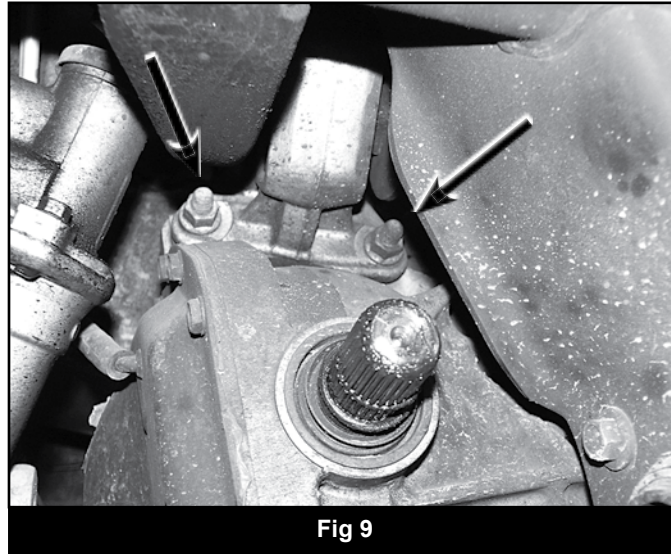
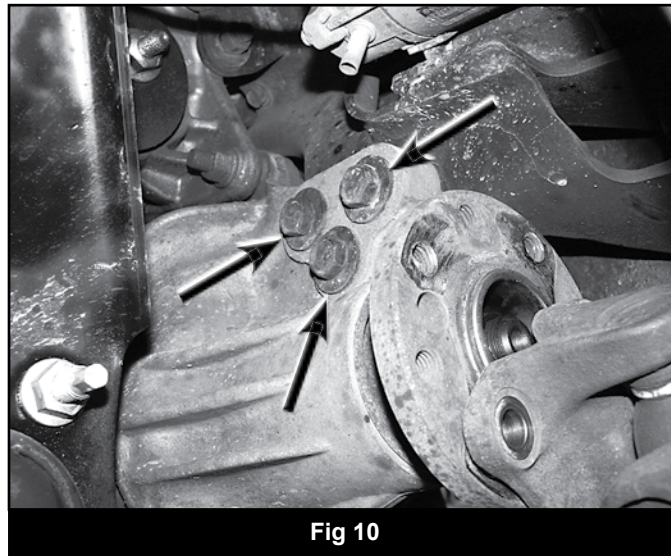

Fig 9
Fig 10
26. Using a jack, support the differential. Loosen and remove the two forward-most differential mounting bolts on the driver's side (Fig 9). Loosen but do not remove the three rear driver's side bolts (Fig 10) and the two passenger's side bolts (Fig 11).